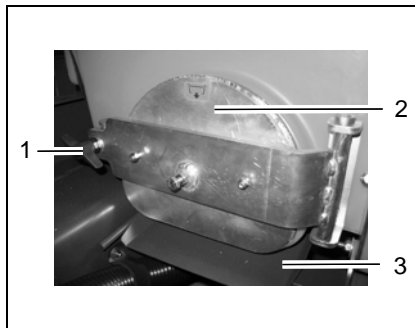

Fig. 27
3. Pull out the run-off plate (Fig. 27/3)
4. Release the flap lock: Turn the wing nut (Fig. 27/1) counterclockwise
5. Open the cleaning flap (Fig. 27/2).